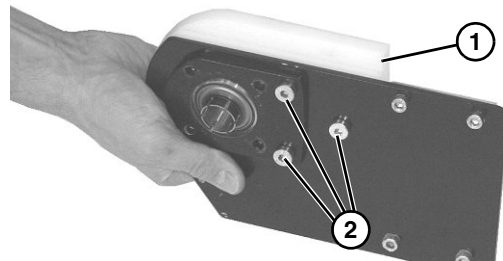

Figure 31
14. Check drive terminal assembly (**Figure 31, item 1**) for wear. If worn, remove three low head cap screws (**Figure 31, item 2**) and replace.